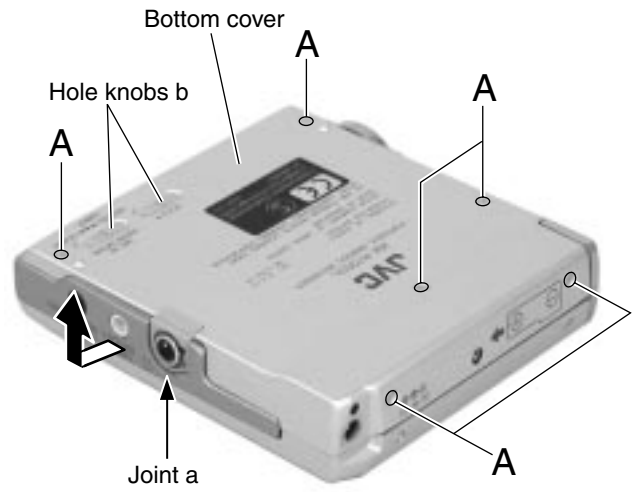

Fig.1
■ Removing the MD door assembly and the bottom cover (See Fig. 1 to 6)
ATTENTION: When reattaching the bottom cover, fit the hole knobs **b** to the hold switches on the main board correctly (See Fig.1 and 2).